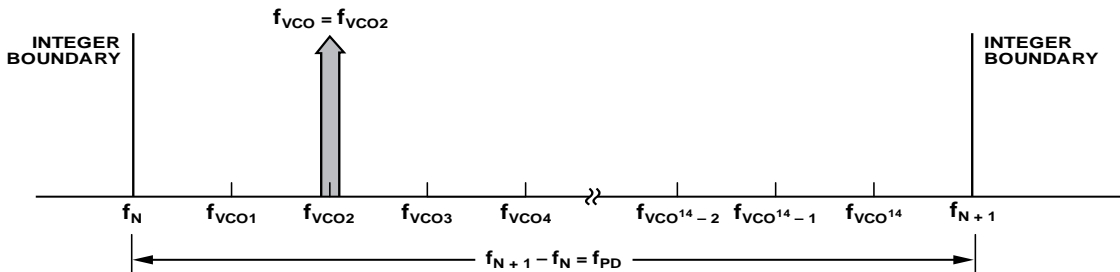

Figure 46. Exact Frequency Tuning
f_{VCOk} is the channel step frequency where $0 < k < 2^{24}-1$, as shown in Figure 46.
(the denominator or the modulus of the Δ - Σ modulator) so that the Δ - Σ modulator phase accumulator repeats at an exact period related to the interval frequency ($f_{VCOk} - f_{VCO(k-1)}$) in Figure 46. Consequently, the shortened accumulator results in more frequent repeating patterns and as a result often leads to spurious emissions at multiples of the repeating pattern period, or at harmonic frequencies of $f_{VCOk} - f_{VCO(k-1)}$. For example, in some applications, these intervals might represent the spacing between radio channels, with the spurious occurring at multiples of the channel spacing.
When multiple, equally spaced, exact frequency channels are needed that fall within the same interval (that is, $f_N \leq f_{VCOk} < f_{N+1}$) where f_{VCOk} is shown in Figure 46 and $1 \leq k \leq 2^{14}$, it is possible to maintain the same integer-N (Register 0x03) and exact frequency register (Register 0x0C) settings and only update the fractional register (Register 0x04) setting. The exact frequency channel mode is possible when Equation 16 is satisfied for at least two equally spaced adjacent frequency channels, that is, the channel step size.
To configure the HMC832 for exact frequency channel mode, initially and only at the beginning, the integer (Register 0x03) and exact frequency (Register 0x0C) registers need to be programmed for the smallest f_{VCO} frequency (f_{VCO1} in Figure 46), as follows:
1. Calculate and program the integer register setting Register 0x03 = $N_{INT} = \text{floor}(f_{VCO1}/f_{PD})$, where f_{VCO1} is shown in Figure 46 and corresponds to the minimum channel VCO frequency. Then, the lower integer boundary frequency is given by $f_N = N_{INT} \times f_{PD}$.
where $f_N = \text{floor}(f_{VCO1}/f_{PD})$, and f_{VCO1} , as shown in Figure 46, represents the smallest channel VCO frequency that is greater than f_N .
4. To change from Channel 1 ($f_{VCO1} = 2800.2$ MHz) to Channel 2 ($f_{VCO2} = 2800.3$ MHz), only Register 0x04 needs to be programmed, as long as all of the desired exact frequencies, f_{VCOk} (Figure 46), fall between the same integer-N boundaries ($f_N < f_{VCOk} < f_{N+1}$). In that case,